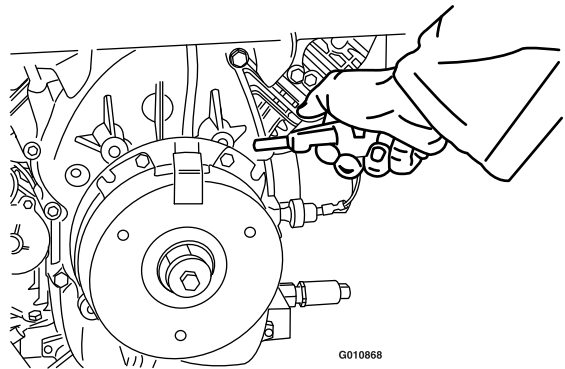

Figure 70
3. Using an air compressor, blow out any debris from under the brake pole and around the brake spacers (Figure 70).